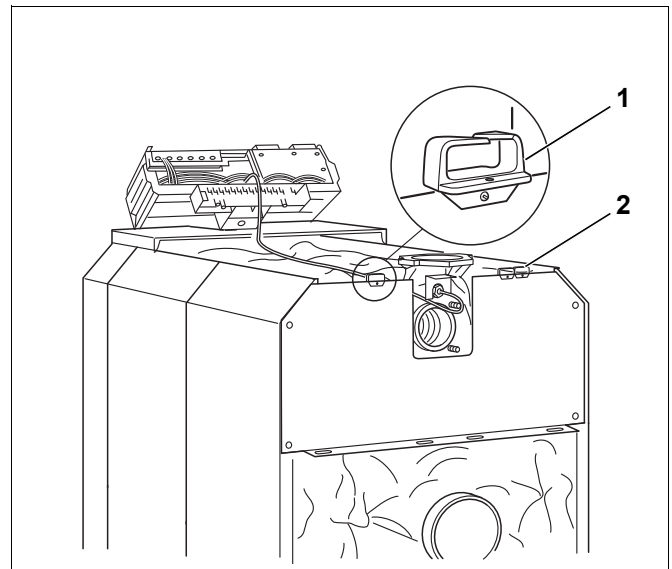

Fig. 63 Electrical connection
- Secure the cable duct (Fig. 63, **[1]** and **[2]**) on the l.h. and r.h. side to the rear of the boiler.